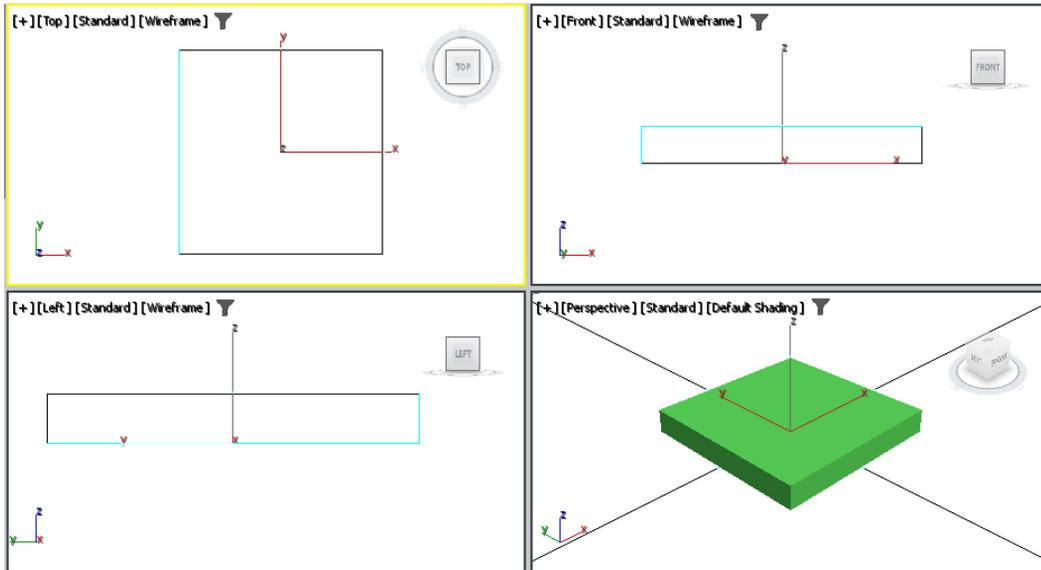

Figure 5-24 The base extruded in all viewports
- In the **Parameters** rollout, set the value **0.4** in the **Amount** spinner and press the ENTER key; *base* is extruded, as shown in Figure 5-24.